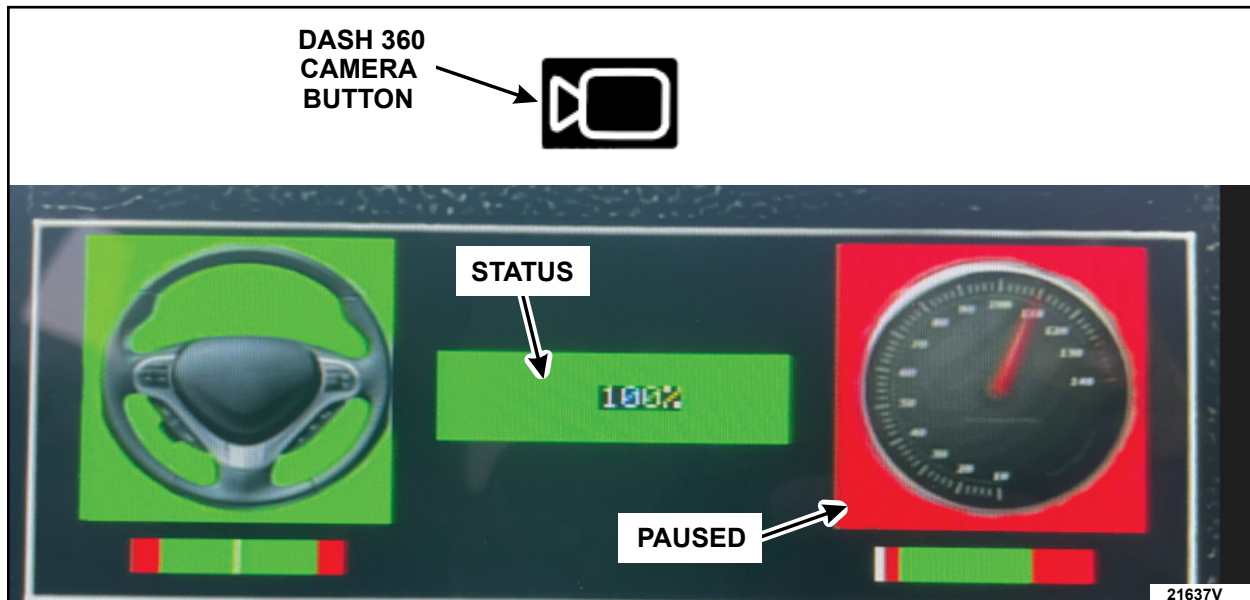

FIGURE 23
e. To access the calibration status screen, press the 360 camera button located on the center of the dash and maintain a speed of 5 Miles Per Hour (MPH) (8 Kilometer Per Hour (KPH) or lower. See Figure 23. The status screen will disappear at speeds greater than 5 MPH (8 KPH).
NOTE: If the steering wheel is turned too sharp or speed is over 15 MPH (24 KPH), progress will pause (turn red). It will resume (turn green) once the steering wheel is straightened or you have reached the appropriate speed. See Figure 23.